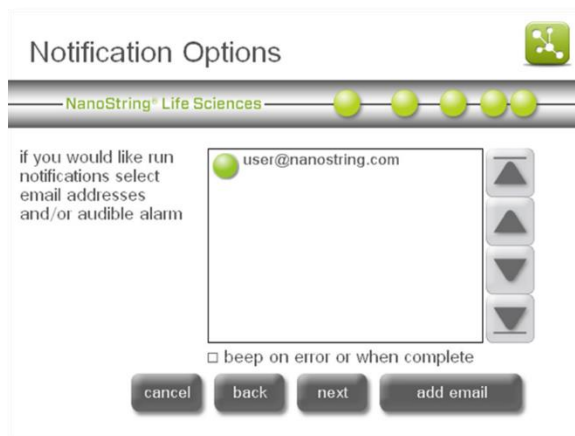

Figure 31: The 'Notification Options' screen.
13. The 'Notification Options' screen will appear (Figure 31).